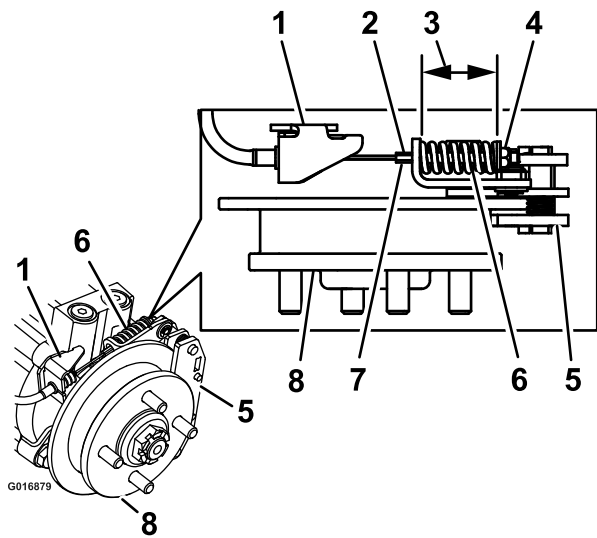

Figure 75
9. Hold the threaded rod end with a tool and adjust the lock nut until the spring length is between 1-1/2 and 1-9/16 inches (3.8 and 4.0 cm) (Figure 75). Do Not allow the cable to turn when the nuts are being loosened.